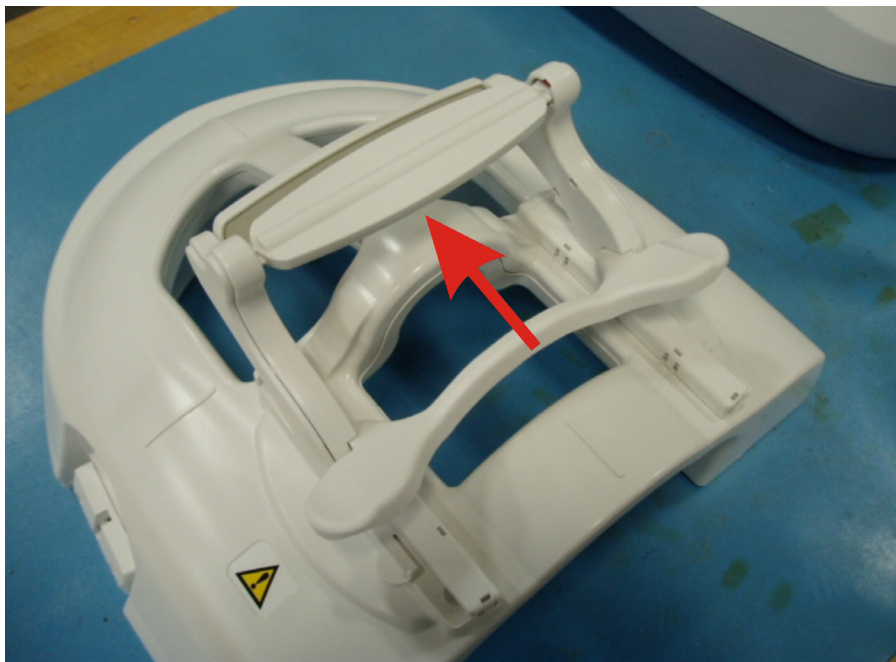
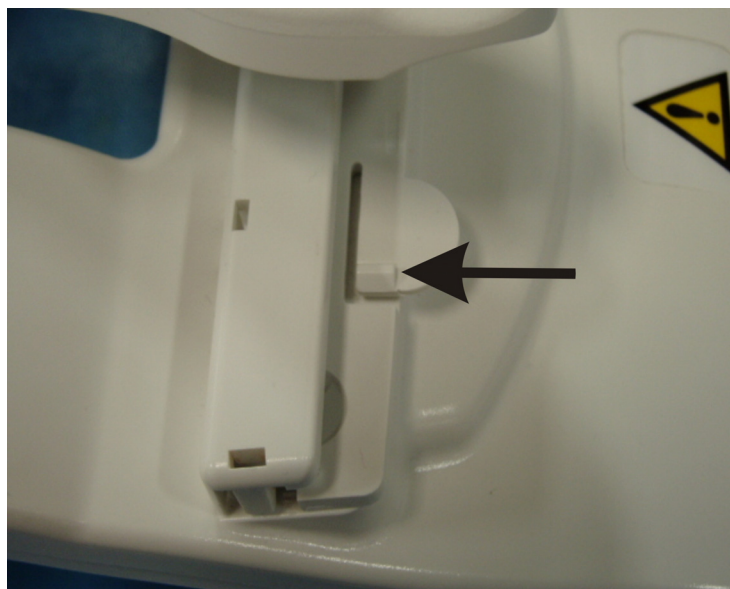

Figure 3-11 Slide mirror onto the rails
Figure 3-12 Right side rail tab.
8. Slide the mirror onto the rails as shown in figure 3-11. The mirror needs to slide past the rail tabs. See figure 3-12 for a photograph of a rail tab.